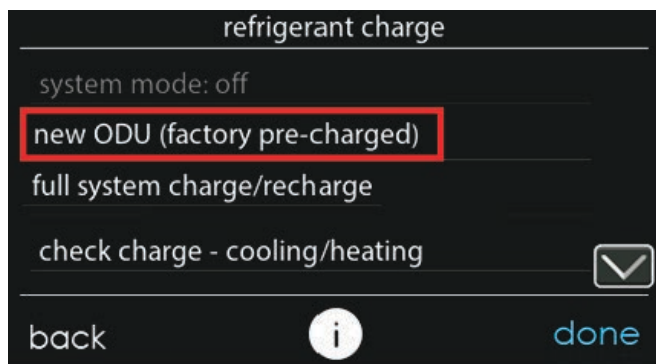

Fig. 14 – Refrigerant Charge Mode Selection
- For new installations, select “new ODU (factory pre-charged)” from the refrigerant charge screen to begin charging the system (Fig. 14). For applications where there is no charge in the ODU, select “full system charge/recharge”.